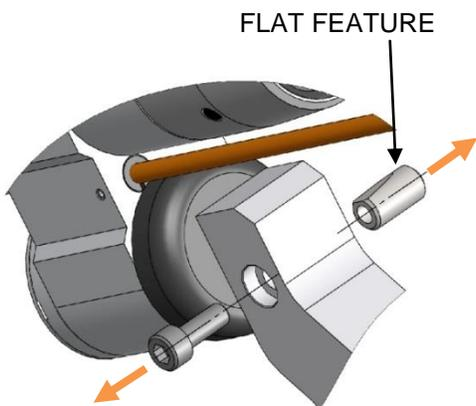

Fig. 2
- **IMPORTANT:** The flat feature of the locking pin must interface with the flat feature on the clutch stud to achieve locking and orientation (See Fig. 2 and 3 below).